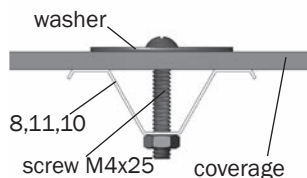
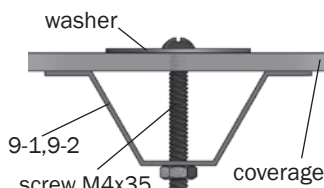
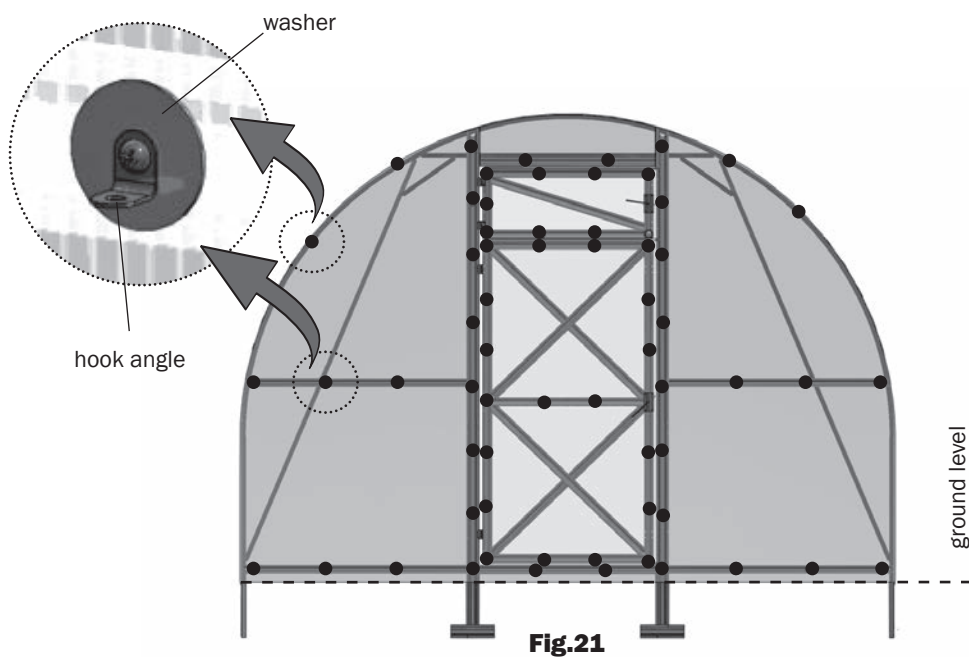

Fig.18
Fig.19
Fig.21
3. Mount end sides in accordance with **Fig. 21**. Holding a piece of coverage fasten it on elements **8, 11, 10** using washers and screws M4x25 (**Fig. 18**), on elements **9-1, 9-2** using washers and screws M4x35 (**Fig. 19**), and on angles using washers and tap screws. Holes for screws are drilled by boring bit of 4 mm diameter from inside of greenhouse through available holes in frame elements. Mount ridge panel pieces fastening them on elements **10** (**Fig. 18**).
5. Mount washers and angles for end hook in accordance with **Fig.21**.